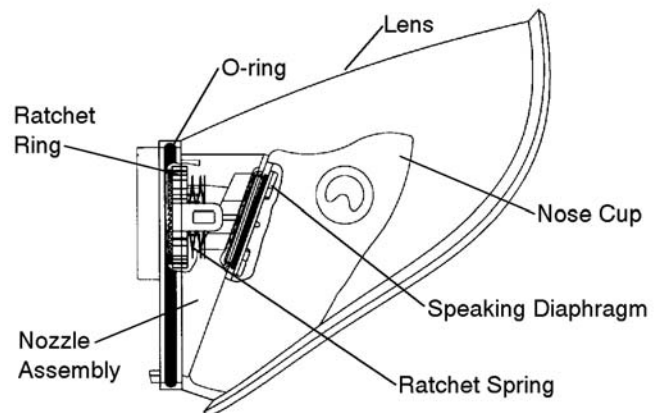

Figure 2. Nozzle Assembly
4. From the nozzle assembly, remove the nose cup, speaking diaphragm, o-ring, ratchet ring, and ratchet spring. See Figure 2.